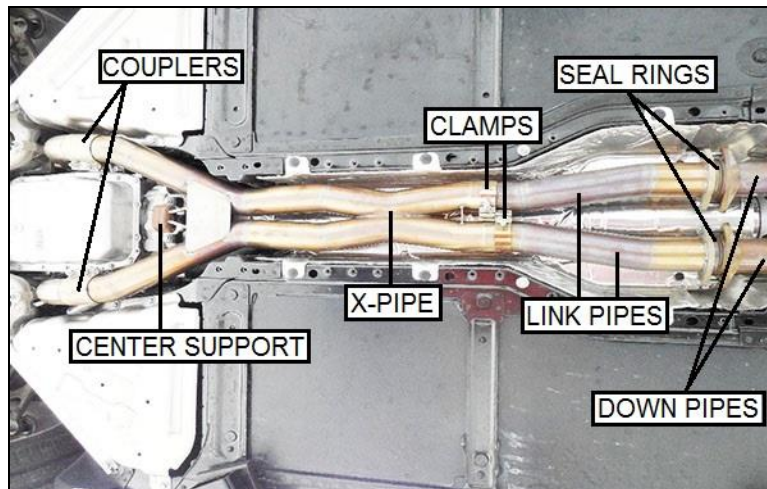

Figure 6
1. Install the 76mm band clamps on to each inlet pipe of the Blackheart X-pipe (expanded end with notches). The clamps need to be configured so the threaded stud of the clamp is positioned to align with the cut out in the lower skid plate (**Figure 6**).
2. Install the Right link pipe (long link pipe) into the X-pipe's short expanded end. Tighten the clamp to allow for adjustment (**Figure 6**).
3. Install the Left link pipe (short link pipe) into the X-pipe's long expanded end. Tighten the clamp to allow for adjustment (**Figure 6**).
5. Install the X-pipe with link pipes on to the down pipes. Install the 10mm x 60mm bolts and flange nuts. Tighten the nuts to allow for adjustment. Support the X-pipe assembly, install the center support hanger assembly, and tighten the (x2) 13 mm bolts (**Figure 6**). Adjust the position of the link pipes if necessary and tighten the (x4) nuts.
6. Install the 3" Torca couplers on to the outlet of the X-pipe with the bolts towards the transmission and nuts facing down (**Figure 6**).